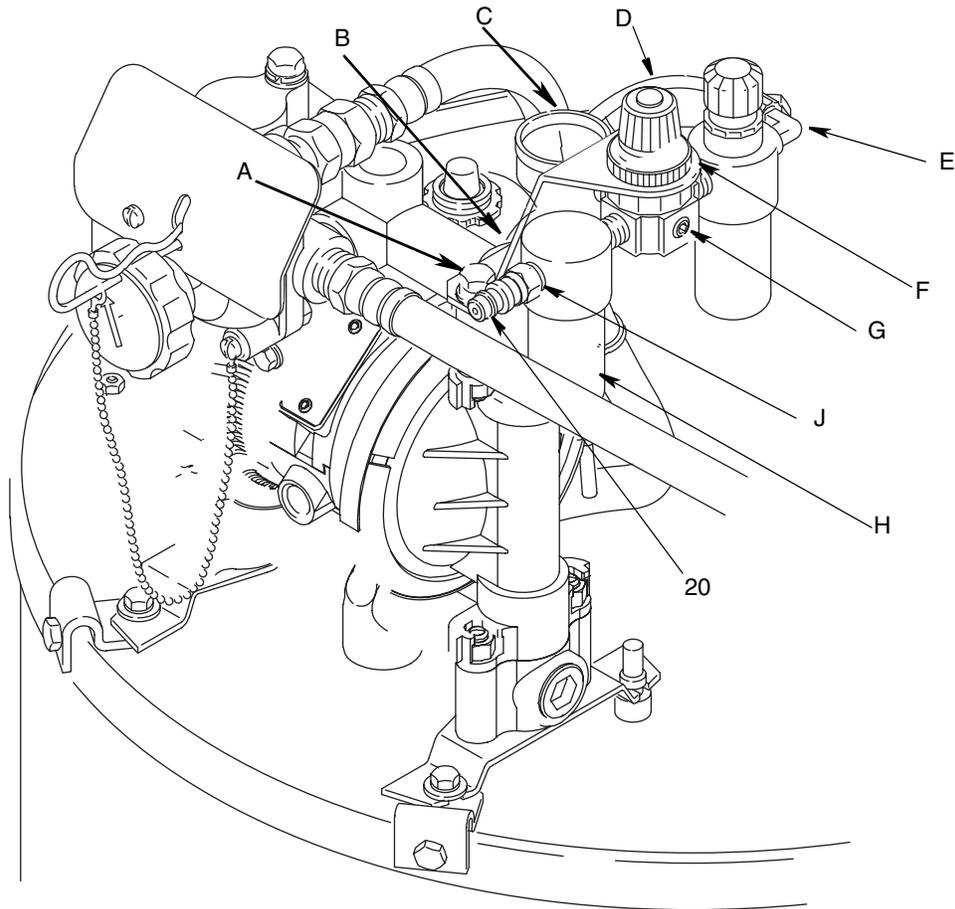

FIG. 4
1. Remove the two manifold screws, flat washers, and lockwashers (A) from the pump.
2. Install the accessory bracket (B) so that its large hole faces up.
4. Remove the male quick disconnect fitting (20) from the pump and install it in the air filter inlet (J).
5. Hold the FRL with the air filter (H) to the left. Install the gauge (C) in the back port of the regulator (not the top) and turn it so the gauge faces up.
6. Install the plug (G) in the front port of the gauge.
7. Remove the lock ring (F) from the base of the air regulator knob.
9. Screw the lock ring (F) over the regulator knob to secure the assembly to the bracket.
10. Install a 90° nylon connector (E) to the FRL outlet on the side of the lubricator.
11. Install the other connector to the pump air restricter inlet (not visible in FIG. 4).
12. Tighten the connectors in a position that allows easy installation of the nylon tube (D). Install tube.